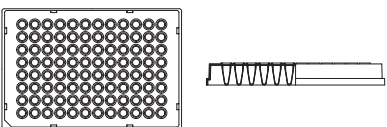

Figure 3: View of full-skirted microplate with one notch
3. Full-skirted microplate with one notch (Fig. 3)